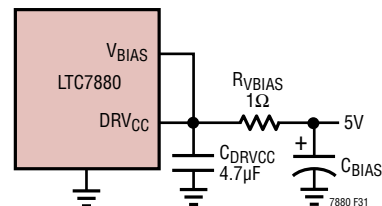

Figure 31. Setup for a 6V Input
For applications where the input voltage is less than 6V, tie the VBIAS and DRVCC pins together and tie the combined pins to the input with a 1Ω or 2.2Ω resistor as shown in Figure 31. To minimize the voltage drop caused by the gate charge current a low ESR capacitor must be connected to the VBIAS/DRVCC pins. This configuration will override the DRVCC linear regulator and will prevent DRVCC from dropping too low. Make sure the DRVCC voltage exceeds the RDS(ON) test voltage for the MOSFETs which is typically 4.5V for logic level devices. The UVLO on DRVCC is set to approximately 5V.